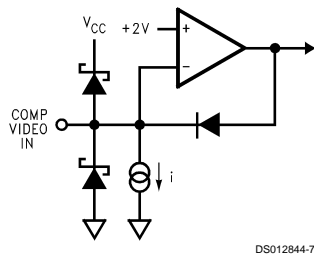

FIGURE 7.
**Pin 9 — COMP VIDEO IN:** The composite video sync stripper is active only when no signal is present at pin 12 (H/HV IN). The signal to pin 9 must have negative-going sync tips which are at least 0.14V below black level. For best noise immunity, a resistor of 2 kΩ or less should be connected from the input side of the coupling cap to pin 21 (GND) via a short path. See Figure 7 for the input schematic.